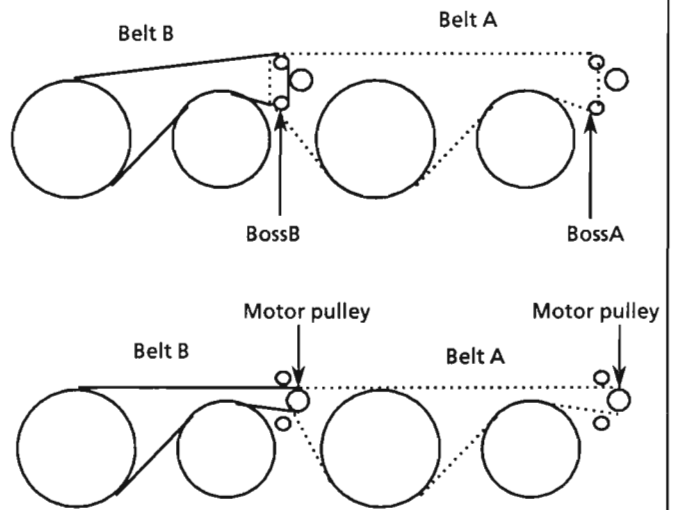

Fig 19 Fly wheel view
1. Install the beltB of bossA ,next install the beltA as shown in fig 19 up side.
3. Hang the beltB of the motor pulley using a tweezers and the like as shown in fig 19 down side .